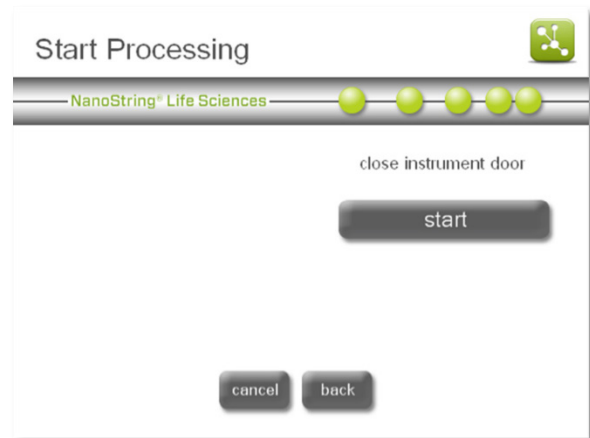

Figure 33: The 'Start Processing' screen.
16. The 'Start Processing' screen will appear (Figure 33). Press **start** when ready to begin processing.